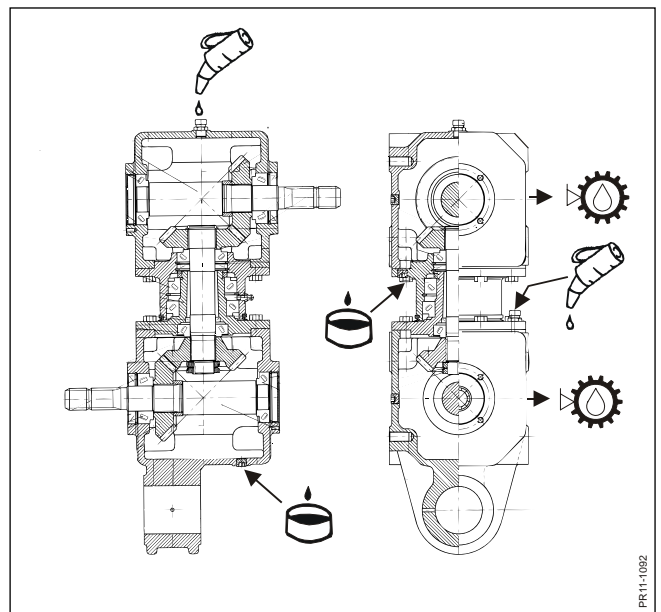

Fig. 4-9
- Fig. 4-9 **Oil content:**  Upper part: 2.3 l